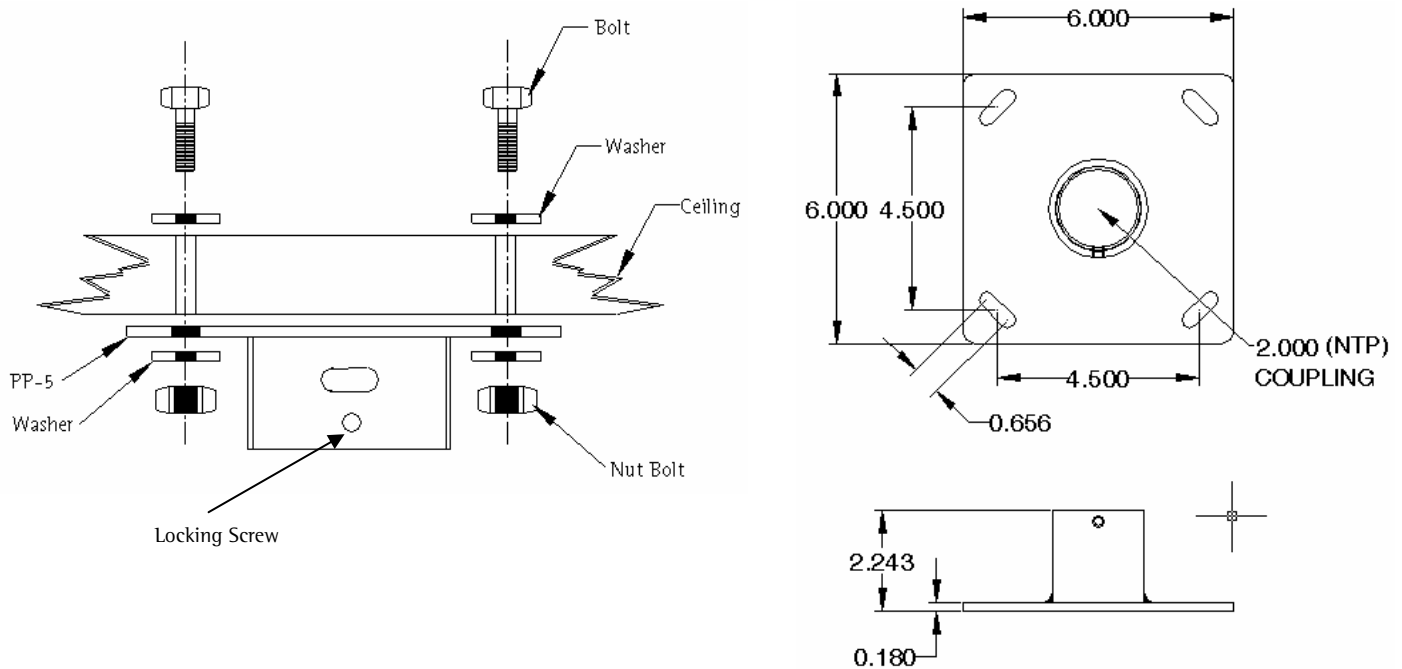

Figure 1
1. Install the PP-6 securely to the ceiling structure in accordance with proper commercial standards. Use suitable hardware depending on the installation requirements (Figure 1).